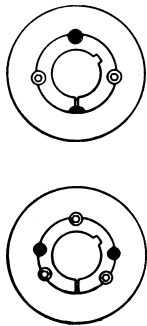

Fig. 16
2. Place the screw loosely in the holes threaded in the hub. See Fig. 16.